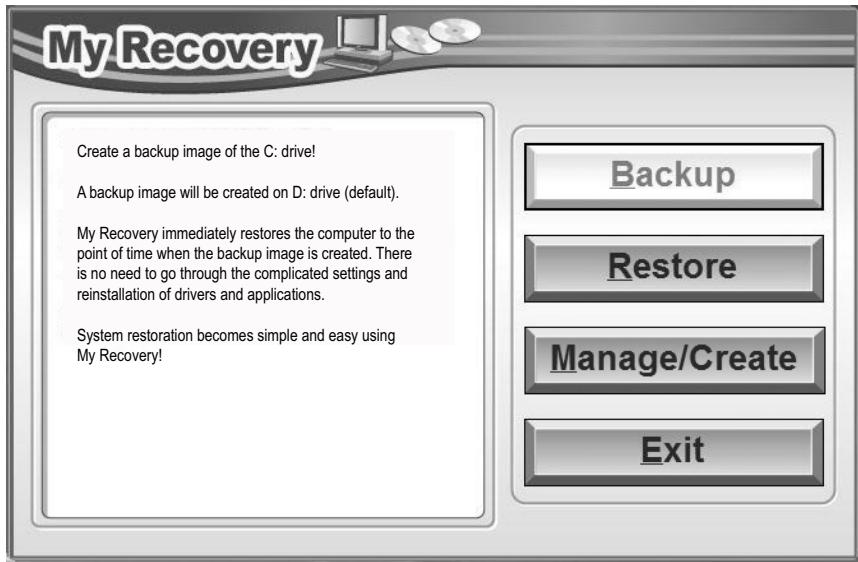

Figure 2. MyRecovery screen
- 1 Click the **[MyRecovery]** icon on your desktop. The My Recovery screen will appear (See Figure 2). Note that the screen illustrated may vary, depending upon your system configuration.)